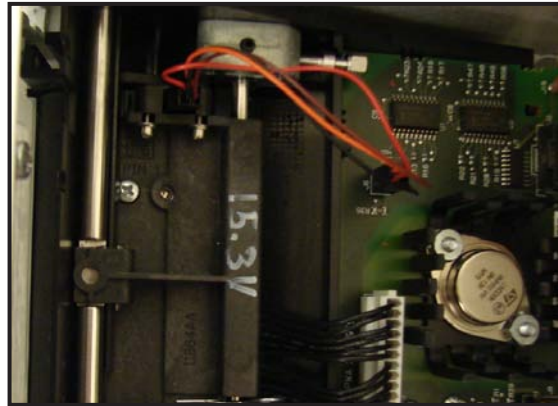

Figure 6-57
- b. Record the voltage rating marked on the decal affixed to the bottom of the print head. This value is the new VHEAD voltage. Cross out the old VHEAD voltage (already marked on the print head bracket) and mark the new VHEAD voltage on the bracket (See "15.3V" example in Figure 6-57).